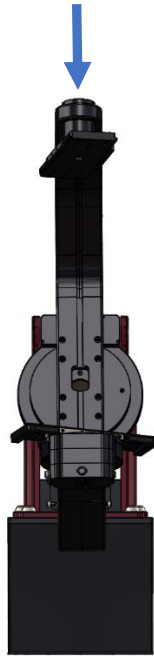
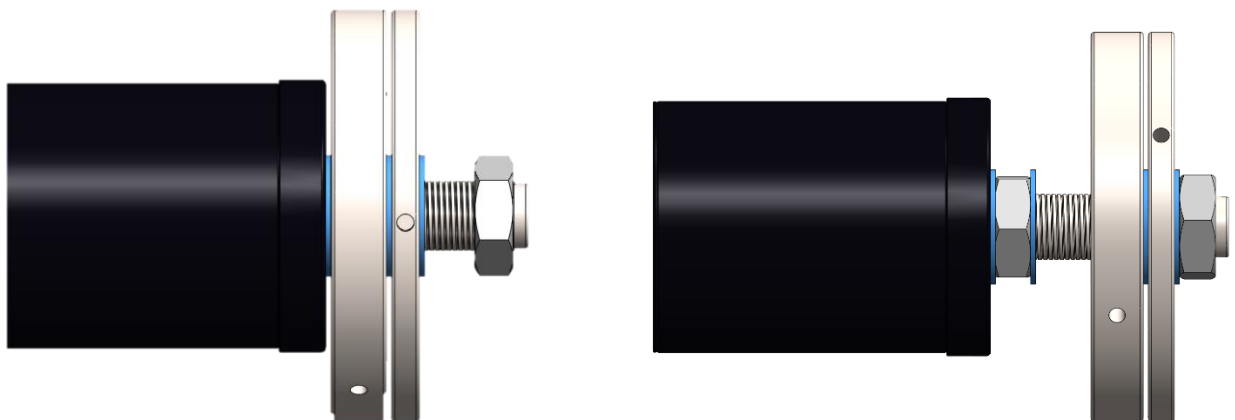

Figure 52: Fork arms oriented vertically, Dec gear side down.
Figure 53: Counterweight and white Delrin washers highlighted in blue.
Allow the fork with the Dec gear to rotate downward so the arms are as close perpendicular to the floor as shown in Figure 52. Next, loosen the clamp setscrew (Figure 46) and make sure the mounting plates are still flush. Typically, the weight of the telescope in this direction causes the cylinder clamp to move slightly downward. Re-tighten the clamp screw while the fork is in this position.
Attach the counterweight shaft by screwing it in to the end of the cylinder assembly adjustment (also shown by the arrow in Figure 52). This counterweight shaft can be screwed in and out as far as needed to balance the RA axis while also keep a low profile. Two possible options are shown in Figure 53.
1. Rotate the fork arms vertically, with the gear as close to the floor as possible, as shown in Figure 52.
- a. Figure 52 does not show the OTA for clarity, but the OTA should be attached at this point.